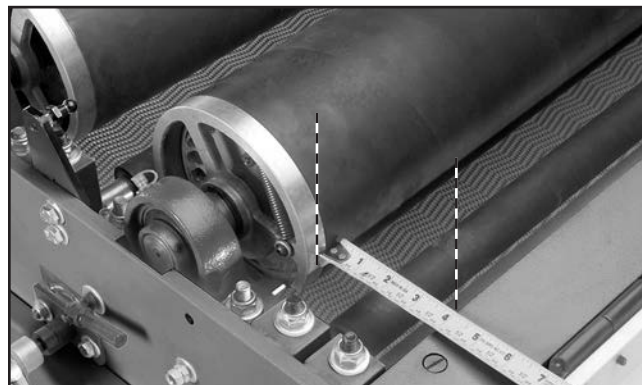

Figure 54. Measuring distance between edge of rear drum and the upper frame.
5. At both ends of the rear drum, measure the distance between the edge of the rear drum and the rear upper frame, as shown in **Figure 54**. The difference between these two measurements will tell you how close the drum is to being perpendicular to the feed direction (assuming that the conveyor roller is parallel to the machine frame).